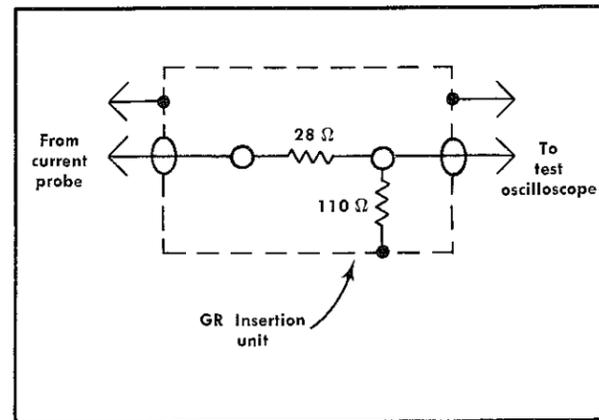

Fig. 5-2. Impedance matching network constructed in GR insertion unit.
To eliminate interaction of current probe and termination adjustments when performing calibration, the probe is adjusted using a standard 50-ohm termination. However, a special impedance matching network must be constructed to match the 62.5-ohm probe cable to the 50-ohm termination. Using a GR insertion unit, construct the network shown in Fig. 5-2. Mark the insertion unit for direction and place the cover over the openings.
d. To the input of the test oscilloscope, connect a 50-ohm GR to BNC termination, a 50-ohm GR 2X attenuator, the insertion unit (see Fig. 5-2 for direction), a GR to BNC female adapter, and the P6021 Current Probe. Clamp the probe around the conductor in the Calibration Fixture and move the slider all the way forward.